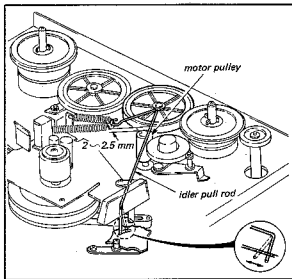

Fig. 4-16. Brake timing adjustment
- Bend the Take-Up Cam Push Rod with a pair of pliers as needed to obtain the correct spacing. See Fig. 4-16.